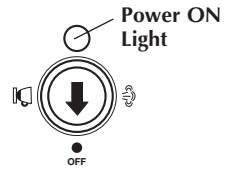

Figure 5
- Turn the Function Control Knob to ☕ ESPRESSO. The Power ON Light will illuminate (see Figure 5). The espresso will begin to flow from the Filter Holder Spout in 1 to 3 minutes, depending on the amount of water added to the Water Tank. Wait until all the water from the Water Tank has flowed into the Carafe.